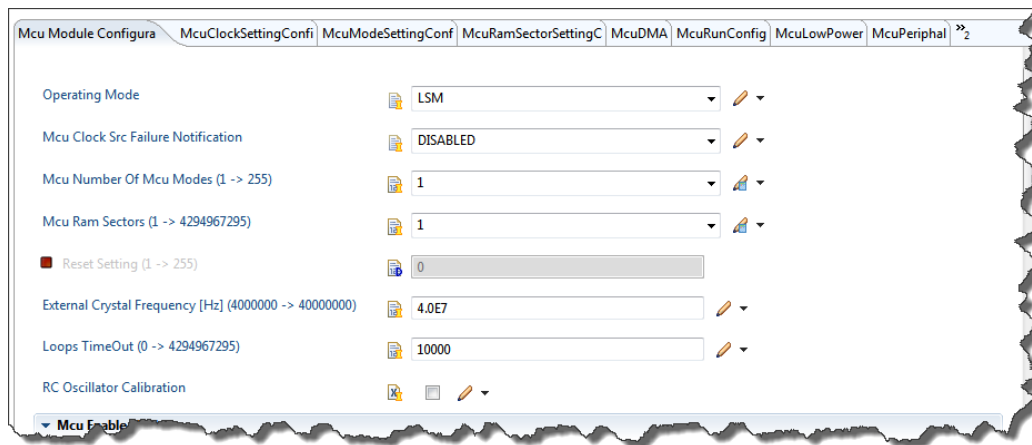

Figure 5-1. Modifying the External Crystal Frequency
3. Use the Tresos Studio GUI to modify configuration parameter values and save the changes. The value of the External Crystal Frequency parameter can be changed as depicted in Figure 5-1: Modifying the External Crystal Frequency